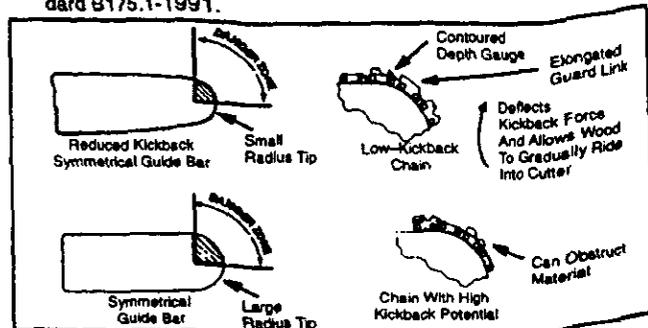

Figure 5
- **Reduced-Kickback Guide Bar**, designed with a small radius tip which reduces the size of the kickback danger zone on the guide bar tip. Figure 5. A Reduced-Kickback Guide Bar is one which has been demonstrated to significantly reduce the number and seriousness of kickbacks when tested in accordance with ANSI B175.1-1991
- **Low-Kickback Chain**, designed with a contoured depth gauge and guard link which deflect kickback force and allow wood to gradually ride into the cutter. Figure 5. Low-Kickback Chain is chain which has met kickback performance requirements of ANSI B175.1-1991 when tested on a representative